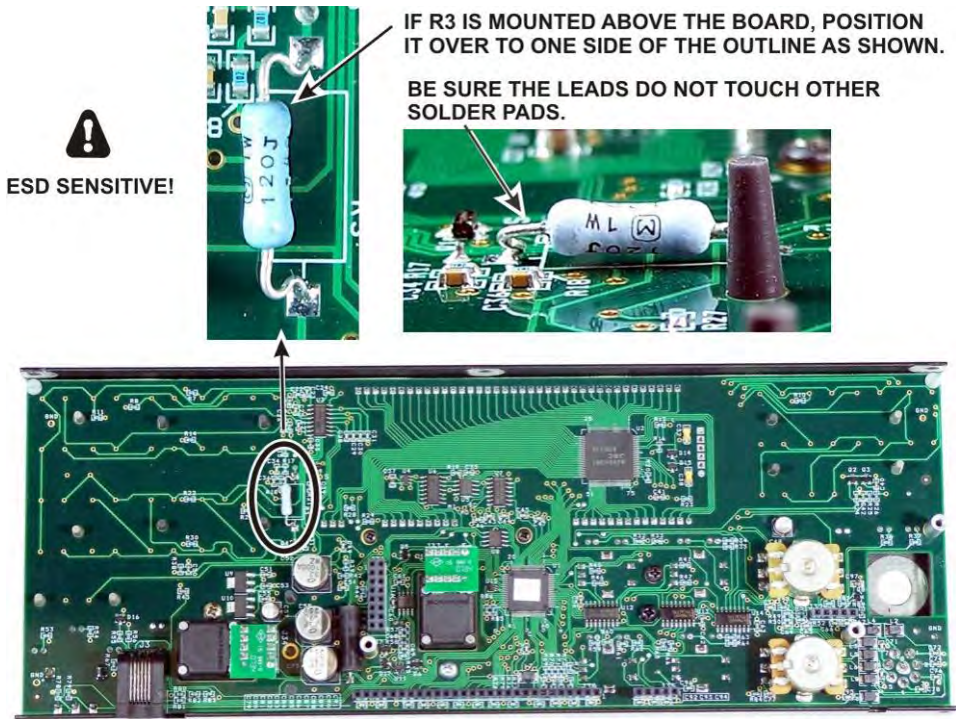
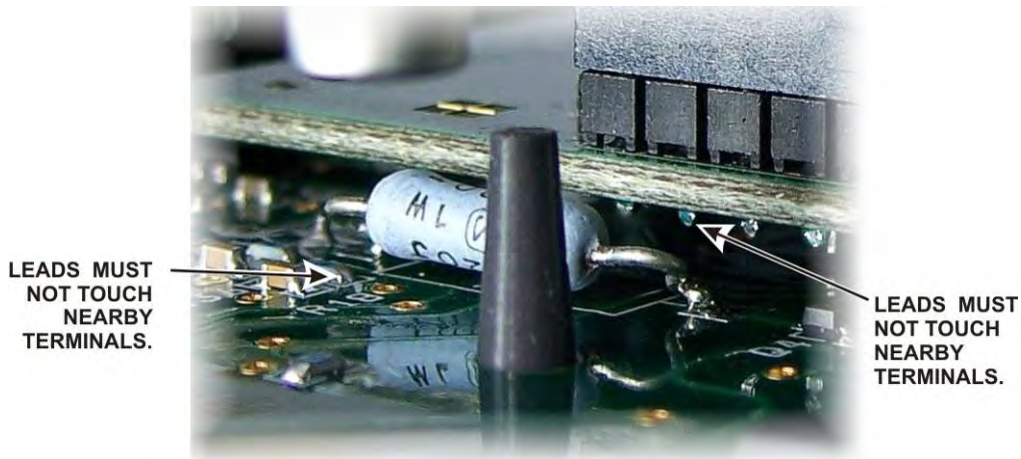

Figure 25. Positioning R3 on the Front Panel Board.
Figure 28. Checking the Position of R3.
□ Locate resistor R3 on the front panel board (mounted on the front panel). If R3 is positioned above the board on its leads as shown in Figure 25, push it over to one side of the outline as shown. Be sure you don't push it so far its leads might touch the solder pads for other components on the board.
□ If you installed the Auxiliary DSP board for the KRX3A and adjusted the position of resistor R3 as shown in Figure 25, look between the DSP boards and the front panel board to verify that the leads are not touching any terminals on either the aux DSP or front panel boards (see Figure 28). If necessary, unplug the DSP board assembly and adjust the position of R3 to ensure the leads are clear of other solder pads before proceeding.